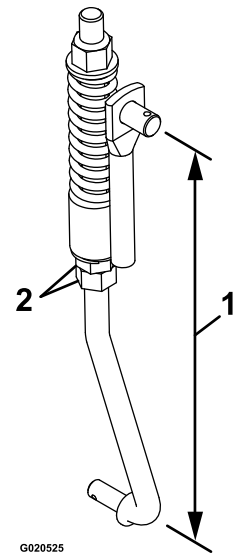

Figure 47
- Adjust the linkage length with the 2 nuts at the bottom of the vertical spring assembly (Figure 47).